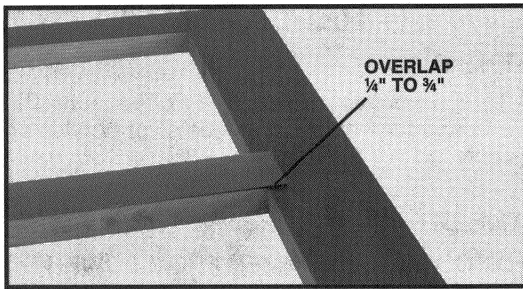

Fig. 3
3. Position the laminate to a rail with at least  $\frac{1}{4}$ " and no more than  $\frac{3}{4}$ " overlapping each stile (see Fig. 3). Use a roller to secure the center section of the laminate to the rail. Leave at least 4" of the laminate loose, at both ends of the rail (Do not roll down).